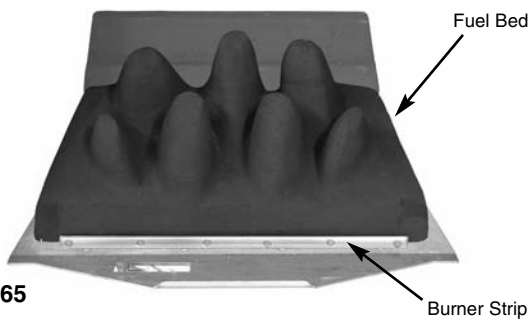

Fig. 65
2. Place the main fuel bed on to the middle section of the metal burner tray. It is important that the front edge of the fuel bed is located behind the burner strip (Fig. 65).